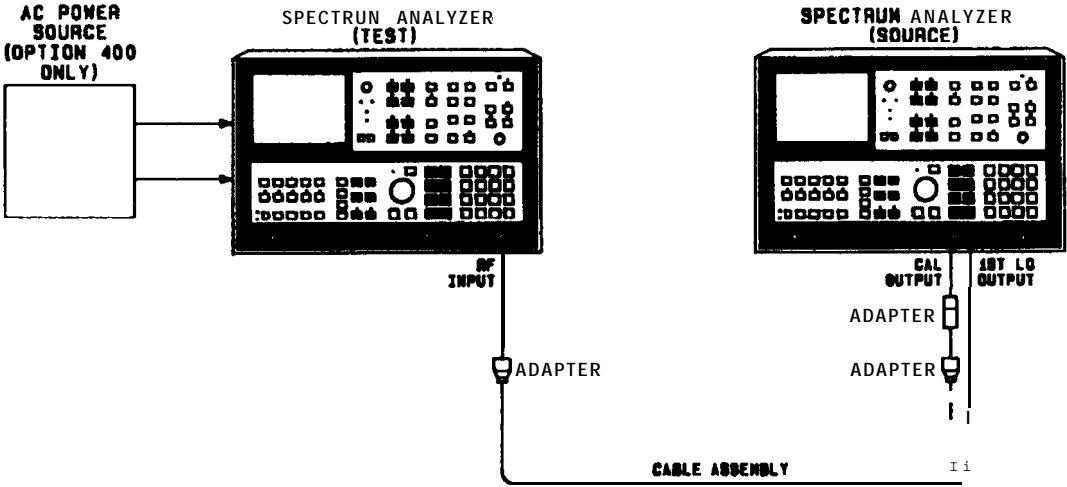

Figure 2-24. Line Related Sidebands Test Setup
3. Connect CAL OUTPUT of source analyzer to RF INPUT of analyzer under test as shown in Figure 2-24.
11. Connect 1ST LO OUTPUT of source analyzer to RF INPUT of analyzer under test as shown in Figure 2-24.